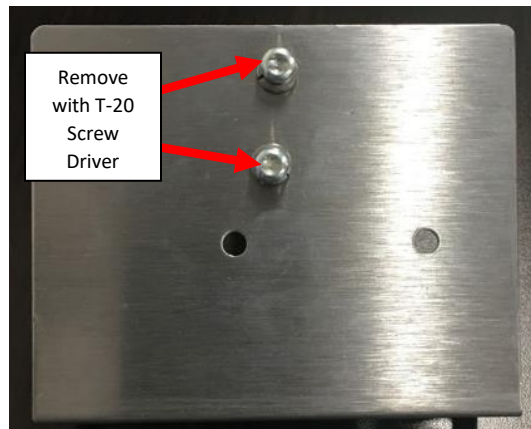

Figure G4: *Screws Shown.*
5. Remove the Solenoid from the bracket by removing the two screws and split washer holding it in place with a T20 Drive Screwdriver. **See Figure G4.**